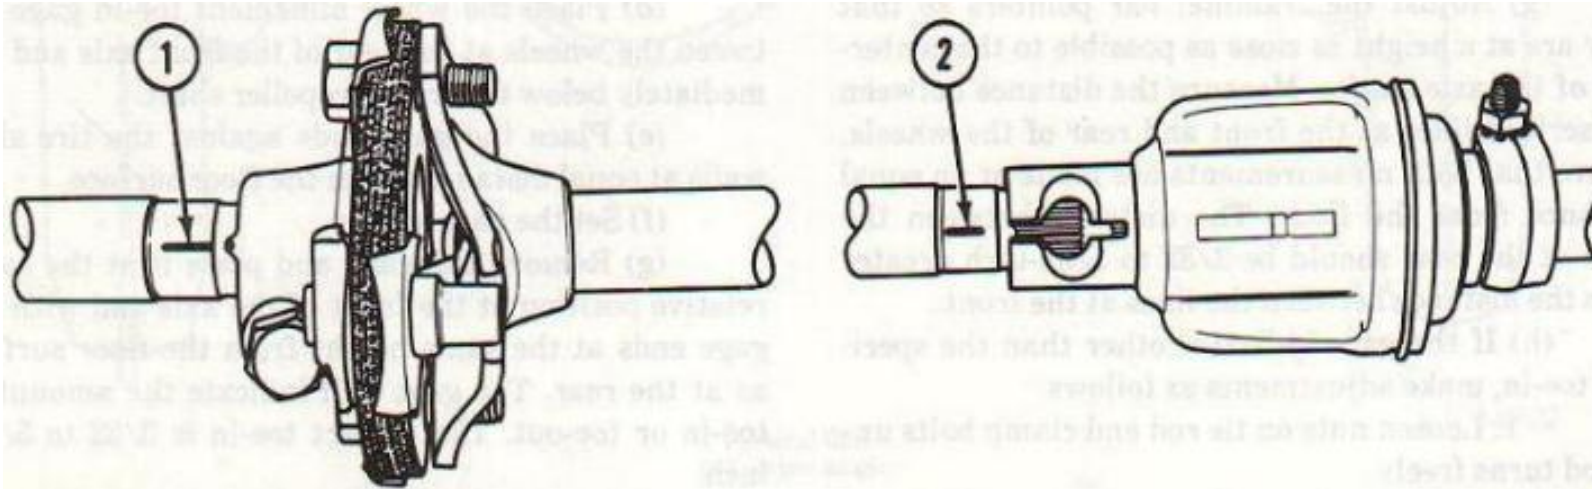
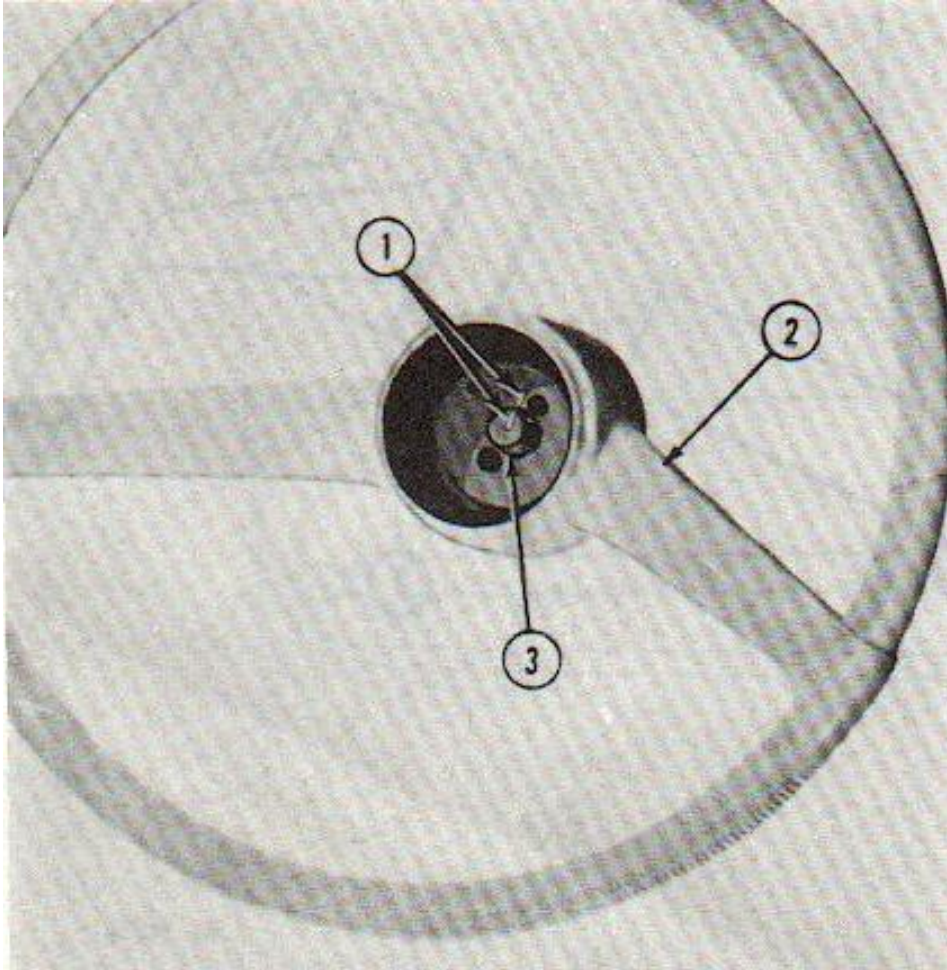

Figure 2-68. Steering shaft alignment marks
Figure 2.69. Steering wheel and shaft alignment.
(a) With the steering column, shaft, and U-joint coupling installed, and the front wheels set straight ahead, check position of mark on worm shaft designating steering gear high point. This mark should be at the top side of the shaft at 12 o'clock position and lined up with the mark in the flexible coupling lower clamp (fig 2-68). If this alignment is correct, check the alignment of mark on upper end of lower steering shaft and saw cut in U-joint coupling. With the steering wheel installed be certain alignment mark on steering shaft matches with mark on steering wheel hub as in figure 2-69.
- (1) Remove horn button by pulling straight away from steering wheel hub.
- (2) Remove three screws which secure horn button, contact flange, horn switch and horn contact spring to steering wheel. Remove contact flange, horn switch and horn contact spring.
- (3) Remove hex head nut and lock washer which secure steering wheel to steering shaft.
- (4) Install steering wheel puller using tool FSN 5120-168-2280. (Fig 2-69)
- (5) Tighten puller screw until steering wheel dislodges from steering shaft.
- (6) Remove steering wheel puller from steering wheel and remove steering wheel from steering shaft.